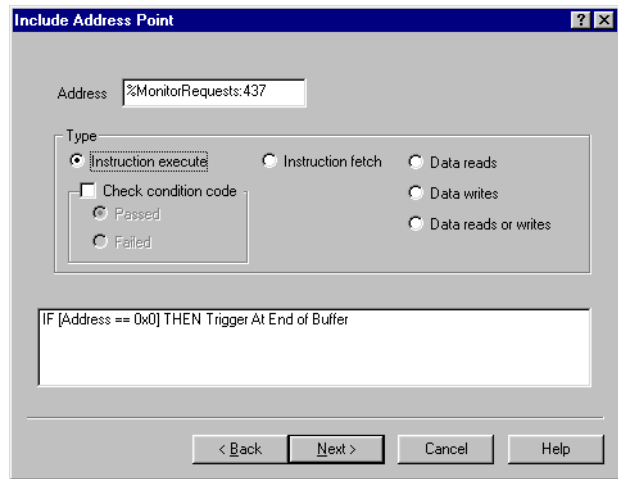

Figure 8-45 Include Address Point dialog box
4. Click on **Next>**. The Address Point dialog box shown in Figure 8-45 on page 8-44 is displayed.